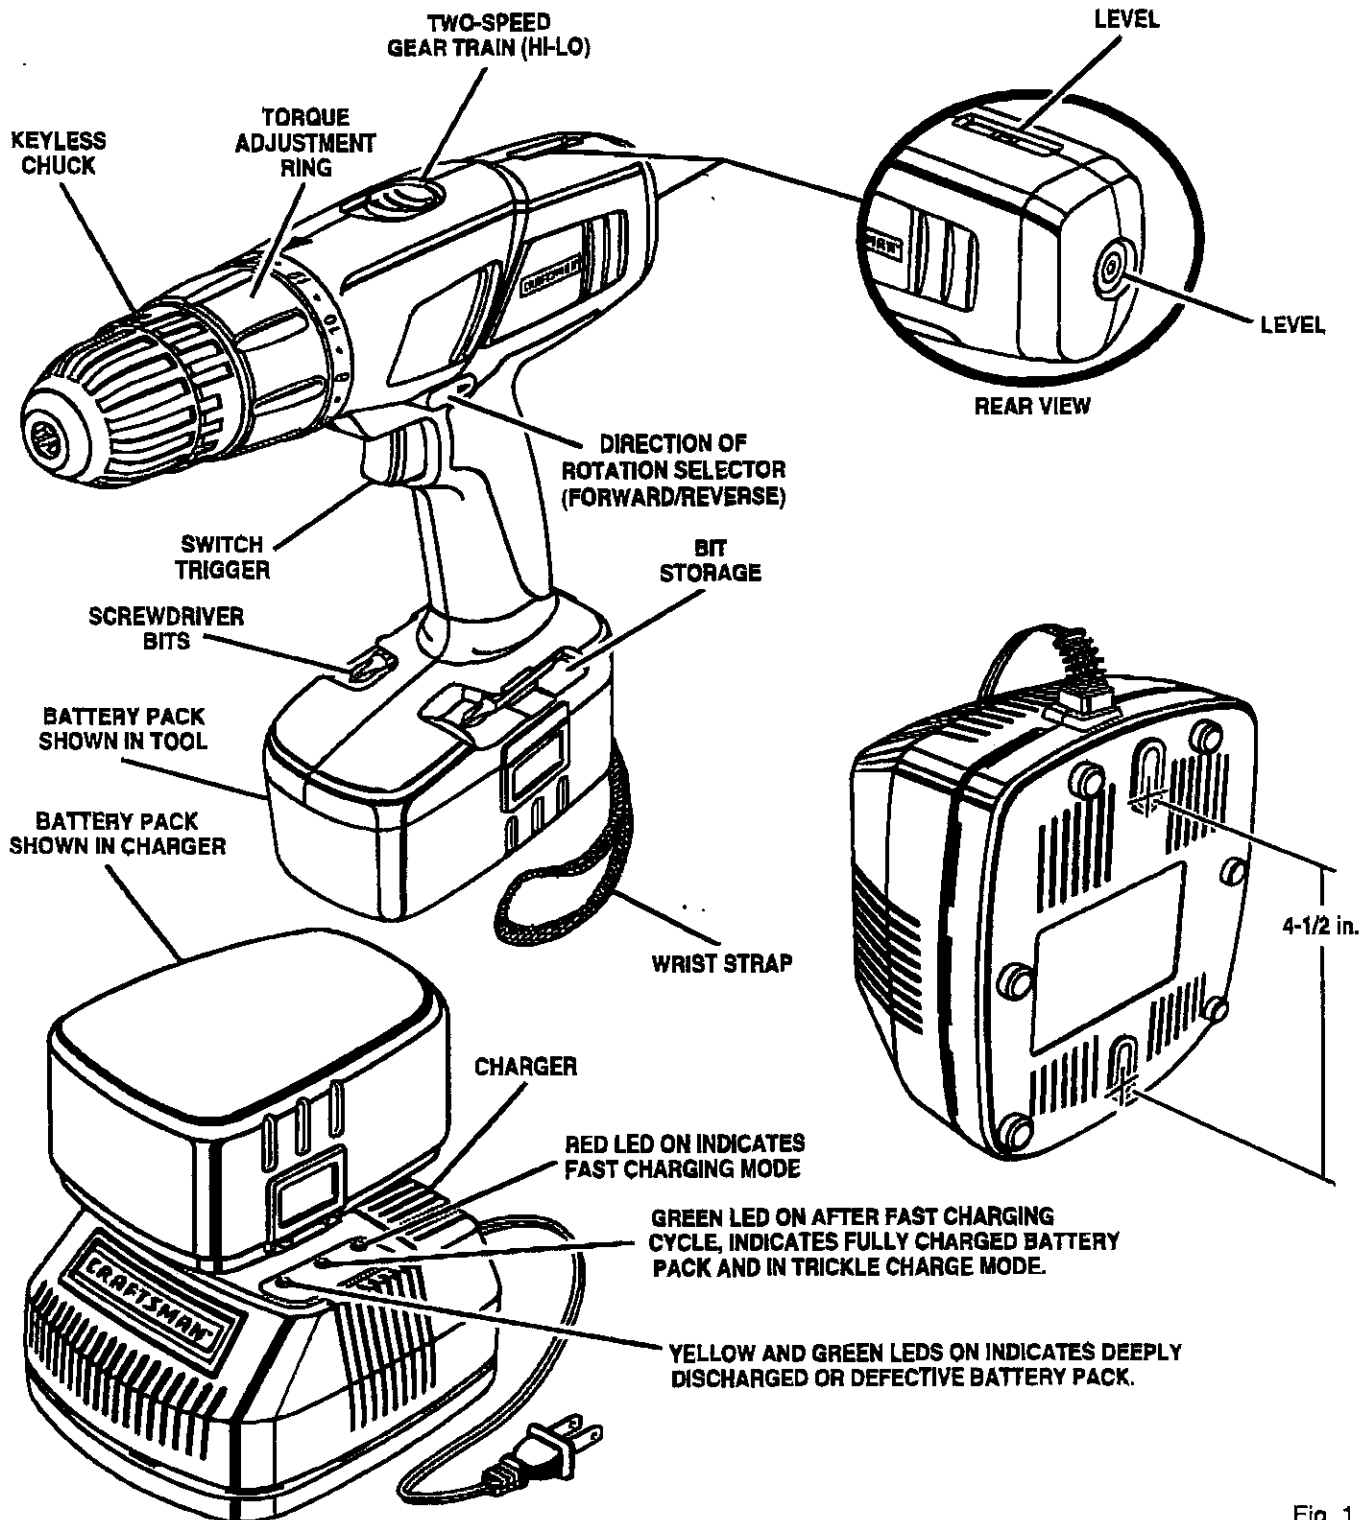

Fig. 1
See Figure 1.
- Place battery pack in charger aligning raised rib on battery pack with groove in charger. *See Figure 1.*